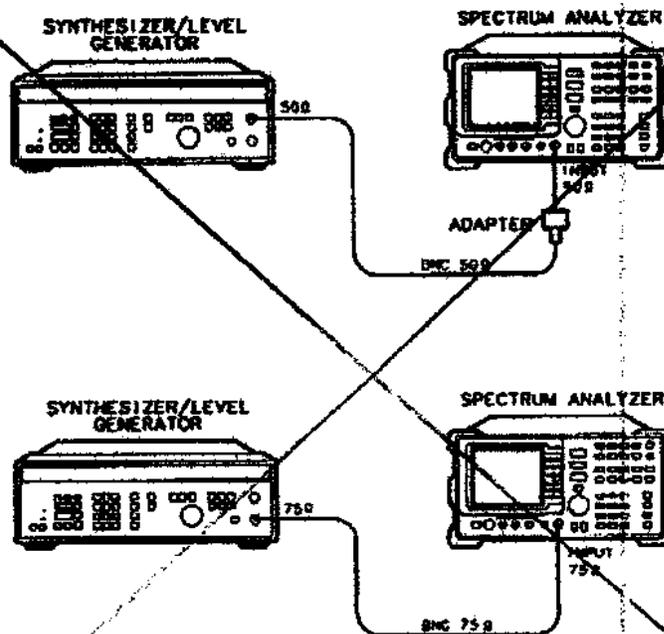

Figure 2-25. Frequency Response for 4 MHz Setup
17. Using a cable, connect the HP 3335A directly to the INPUT 50 Ω . [See Figure 2-25.]
(Option 001: Using a 75Ω cable, connect the HP 3335A from the 75Ω OUTPUT to the INPUT 75Ω. Set the HP 3335A 50-75Ω switch to the 75Ω position. See Figure 2-25.)